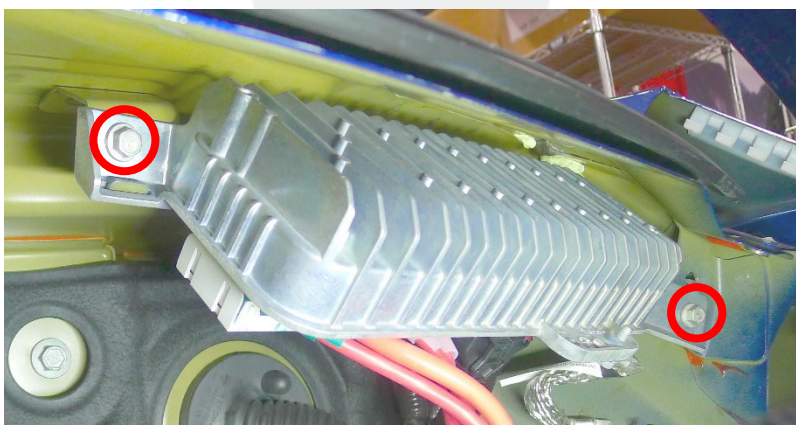

Figure 2
- c. Remove the bolts (x2) that attach the battery controller module to the bulkhead, and then remove the module from the bulkhead (Figure 2).